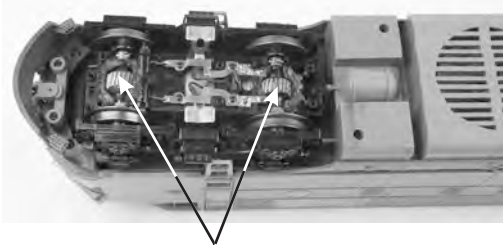

Figure 26: Grease Points Inside Power Truck
2. After removing the truck bottom plate, liberally apply grease to the gears attached to both the outside axles as seen in Figure 26.